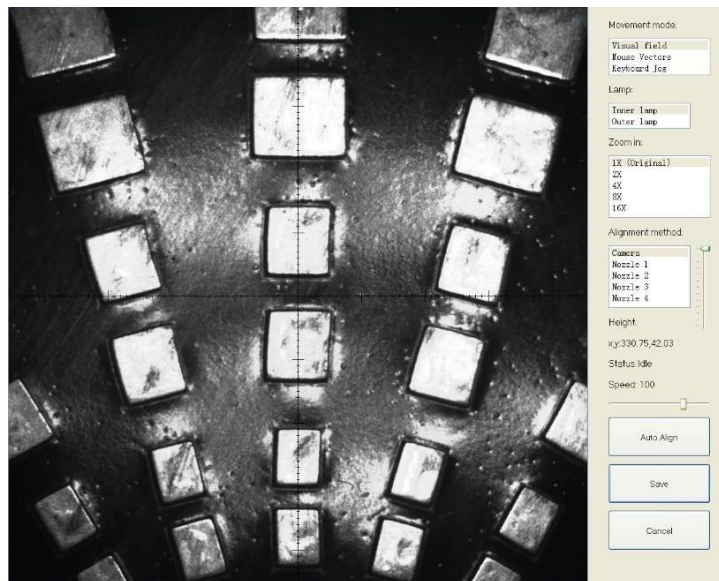

Figure 4.5
**Single PCB:** Only need to enter “1” in the row and column, some other useless function will turn grey. The “left bottom” is functional, which means the first PCB. Then you can press “align” to go to the screen of vision and get the coordinate of first component. See the Figure 4.5.